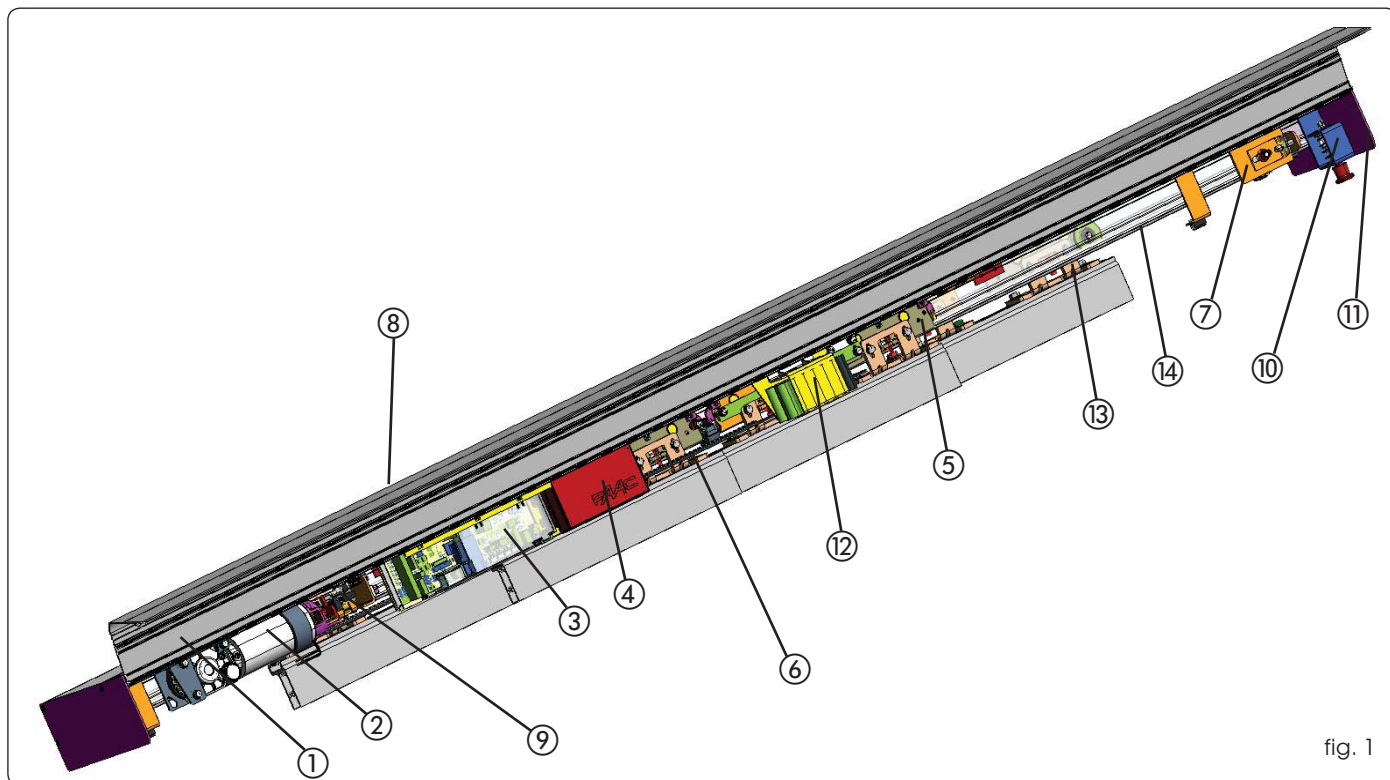

fig. 1
An automation cross beam (fig. 1) consists of the following parts:
Support profile (fig. 1 ref. ①)
Telescopic profile (fig. 1 ref. ⑭)
Motor unit (fig. 1 ref. ②)
Control unit (fig. 1 ref. ③)
Power feed unit (fig. 1 ref. ④)
Internal and external carriages supporting the leaf (fig. 1 ref.
Drive belt (fig. 1 ref. ⑥)
Transmission pulley unit (fig. 1 ref. ⑦)
Closing housings (fig. 1 ref. ⑧)
This is the aluminium profile enabling closure of the automated system. The side panels (fig. 1 ref. ⑪) completely close the system.
Motor lock unit (fig. 1 ref. ⑨)
The motor lock unit is supplied with the internal release device (Fig. 1 ref. ⑩) used for emergency opening if needed. It is also designed for installation of the external release (optional) if required. The motor lock unit acts directly on the motor, locking it mechanically.
Emergency battery (fig. 1 ref. ⑫)